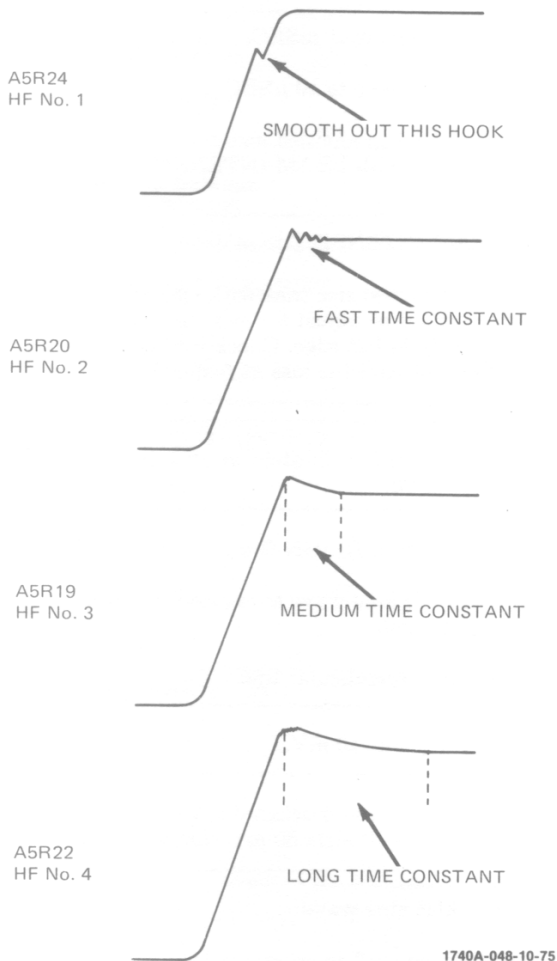

Figure 5-4. Pulse Response Adjustments
d. Adjust A5R24, HF No. 1, CW to partially smooth front edge perturbation. Adjust A5R20, HF No. 2, CW to speed up front edge (see figure 5-4).